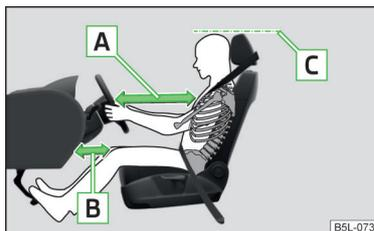

Fig. 1
- ✓ For vehicles with driver knee air-bag adjust the driver's seat in a forward/back direction so that there is a gap of at least 10 cm between the legs and the dash panel in the vicinity of the knee airbag - **B** » Fig. 1.
- ✓ Adjust the steering wheel so that the distance **A** between the steering wheel and your chest is at least 25 cm » Fig. 1. Adjust the steering wheel » page 10, *Adjusting the steering wheel position.*
- ✓ Adjust the head restraint so that the top edge of the head restraint is at the same level as the upper part of your head **C** » Fig. 1.
- ✓ Adjust the head restraint so that the top edge of the head restraint is at the same level as the upper part of your head **C** » Fig. 1 on page 9.
- ✓ Adjust the head restraint so that the top edge of the head restraint is at the same level as the upper part of the head **C** » Fig. 1 on page 9.